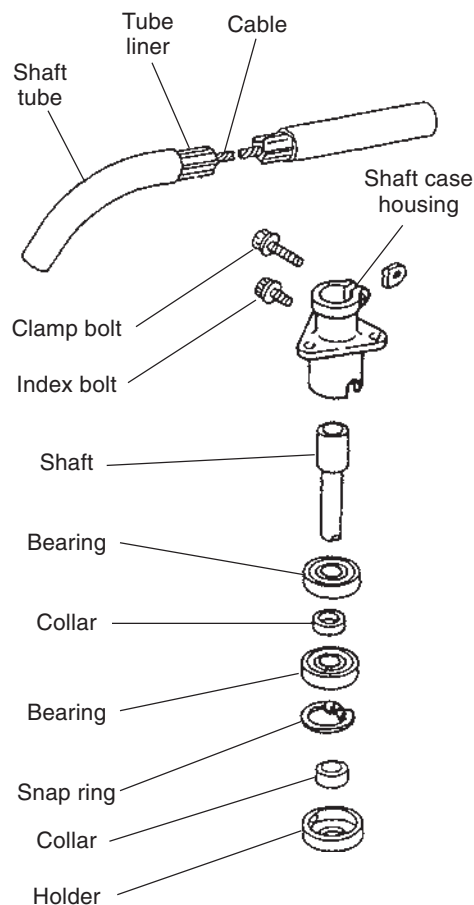

Figure 10.9 Cable drive, exploded view
- STEP 1.** Remove the shaft case housing index bolt and loosen the clamp bolt (Figure 10.9).